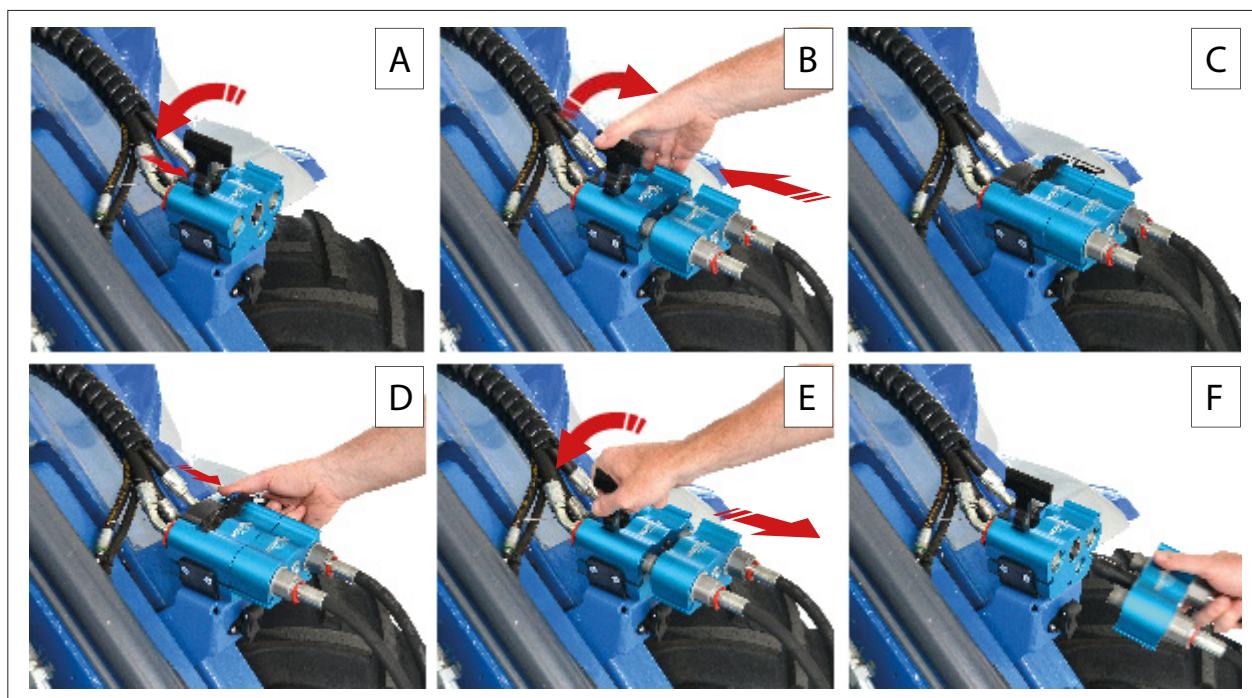

FIG. 34
Before making hydraulic connections between the machine and the attachment (FIG. 34) you need to release the residual pressure in the hydraulic circuit of the machine. To make this proceed as follows:
- 2) Press the lock button (FIG. 33 - Ref. 2) on the lock handle and raise the lock handle (FIG. 33 - Ref. 3) to the unlocked position (FIG. 34 - Ref. A).
- 4) Pull the lock hand (FIG. 34 - Ref. B) downwards, drawing the adapter plate into the connector (FIG. 34 - Ref. C).
- 1) Press the lock button (FIG. 33 - Ref. 2) on the lock handle and raise the lock handle to the unlocked position (FIG. 34 - Ref.D - E).
- 2) Disconnect the attachment's hydraulic lines from the machine (FIG. 34 - Ref. F).